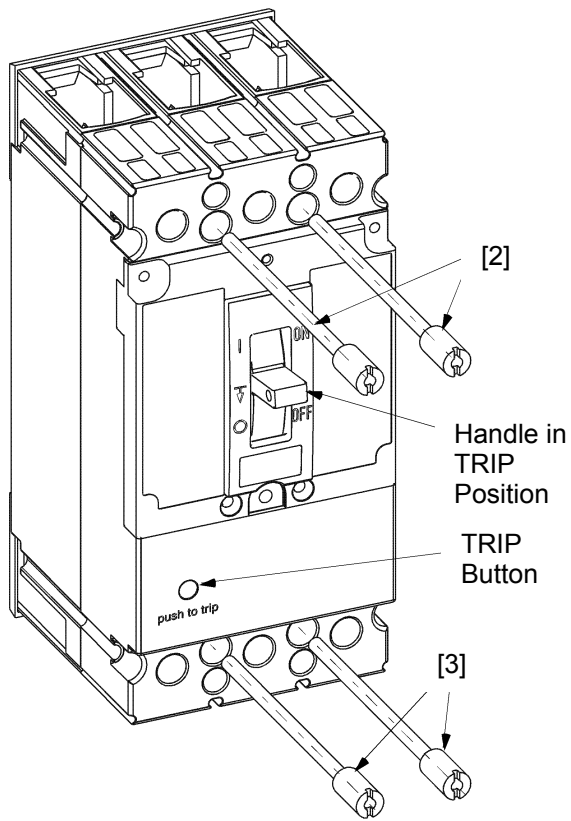

Figure 3. Mounting the circuit breaker to the enclosure.
1. Push the trip button to place the breaker operating handle in the TRIP position, as illustrated in Figure 3.
2. Mount the breaker to the enclosure with the four #8-32 x 2.81" screws [2], as shown in Figure 3. Tighten the screws to 16 - 20 in-lb.